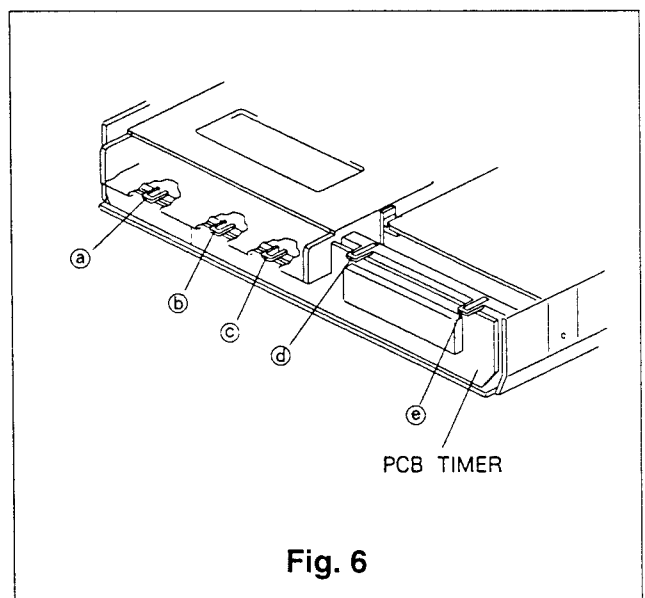

Fig. 6
- B. Unfasten five stoppers(①~⑤), and remove the PCB TIMER, as shown in Fig. 6.